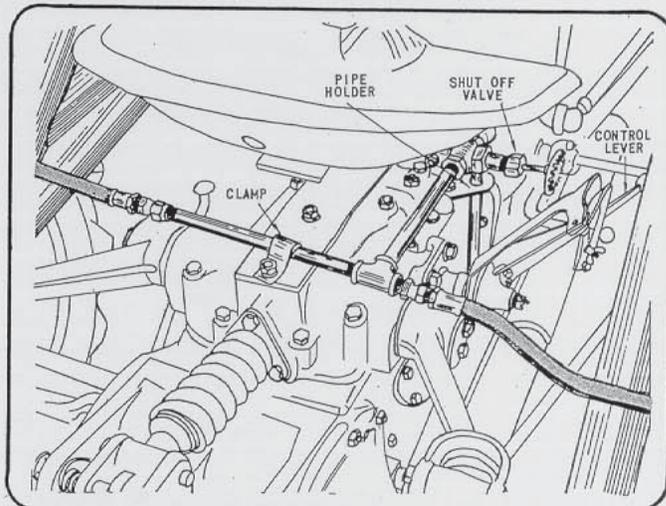

Figure 3 - Tractor Hydraulic System Mounting WM1 Only (Ford 8N, 9N, Ferguson TE)
2. Insert connector in tractor transmission. Connect $\frac{3}{8}$ " pipe 18" long to connector. Secure pipe to top of tractor transmission with pipe holder (Figure 3).